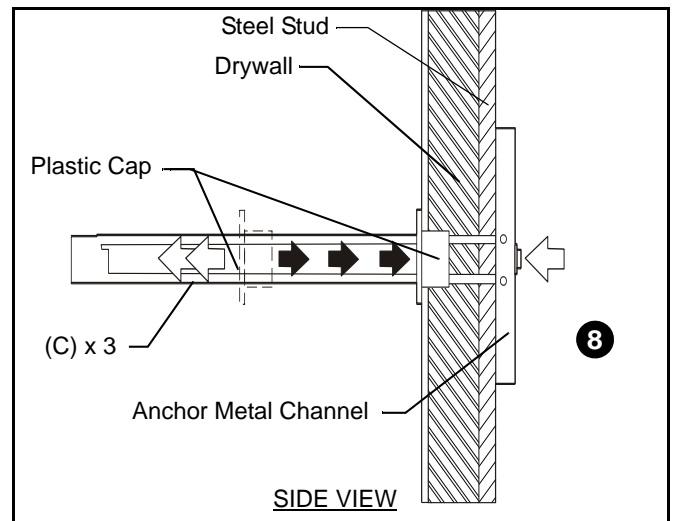

Figure 12
anchor channel is positioned vertically on stud. (See Figure 12)
8. Slide plastic cap on anchor (C) towards wall until flange of cap is flush with wall. (See Figure 12)